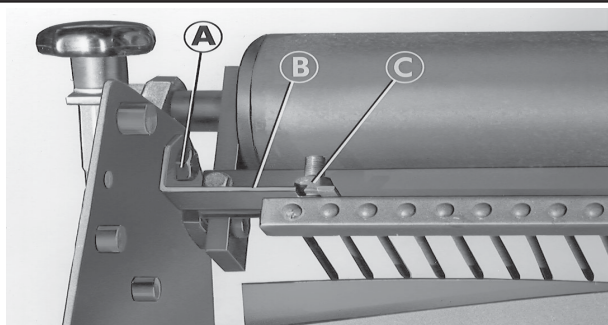

Fig. 9.1
9.1 SET SPAZZOLA E PETTINE (FIG. 9.1)